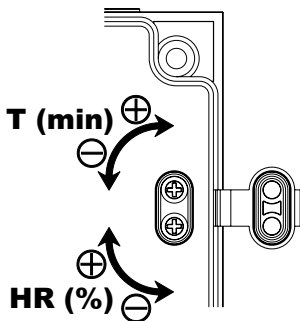

Fig.10
The desired humidity level is selected by means of a potentiometer "% Hr" positioned on the printed circuit board (fig.10) and accessible once the grille (1) has been removed.
To set the timer, turn the potentiometer "t min." on the printed circuit board (fig.10):